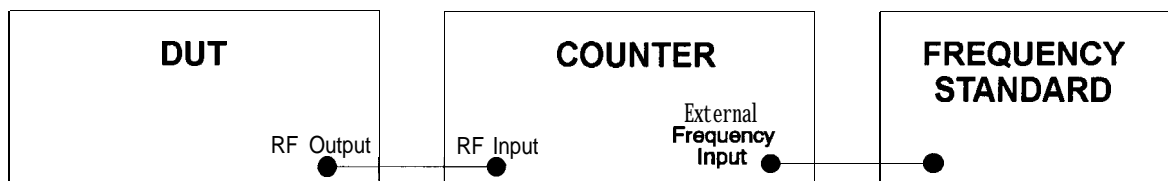

Figure 7-3. Internal Reference Oscillator Adjustment Setup
4. Connect the equipment as shown in Figure 7-3 (where the DUT is the signal generator.)